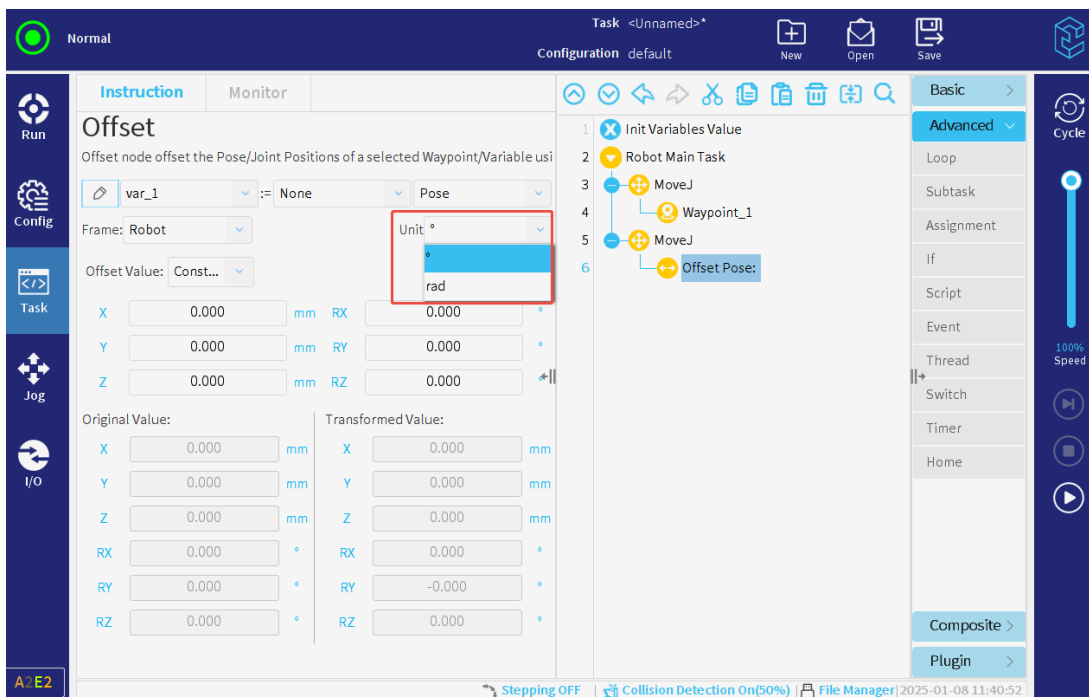

Figure 3-117 : Select Angle Data Unit
- Select degree [°] or radian [rad] as the unit type for angles in offset data, original values, or offset result data, as shown in **Figure 3-117**.